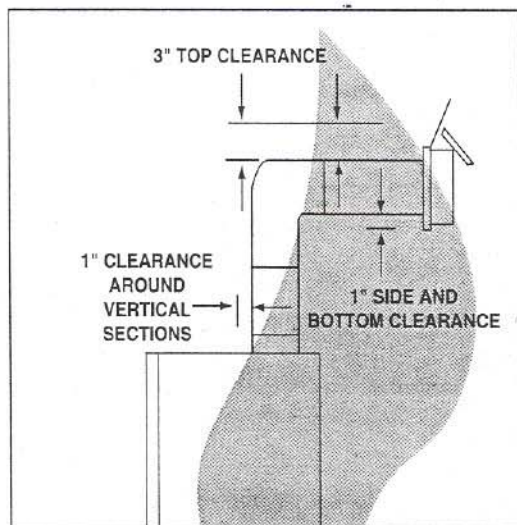

Figure 4
Figure 2 shows all clearances that must be maintained around the appliance. See page nine for termination cap clearances. See Figures 4 and 15 for vent clearances.
a. Clearances - See Figure 4 for clearance information
ALWAYS MAINTAIN MINIMUM AIR SPACE CLEARANCES OR GREATER AROUND THE CHIMNEY SYSTEM. SEE FIGURE 4. DO NOT PACK AIR SPACES WITH INSULATION OR OTHER MATERIAL.